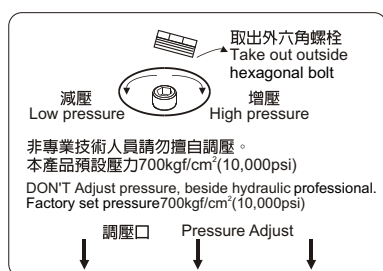

Fig 4.4 Pressure adjust
4.4 Pressure adjusting (Fig. 4.4)